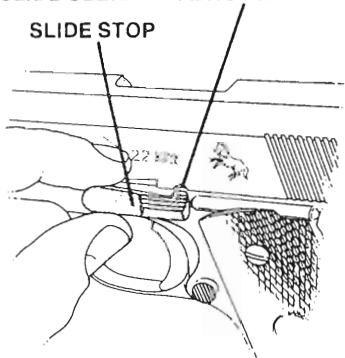

Figure 8 Removing Slide Stop
6. Pull slide to rear until lug on slide stop is opposite slide clearance notch (See Figure 8) and push rounded end of slide stop pin (on right of receiver) inward to disengage slide stop from slide.
7. Lift out slide stop (See Figure 8).